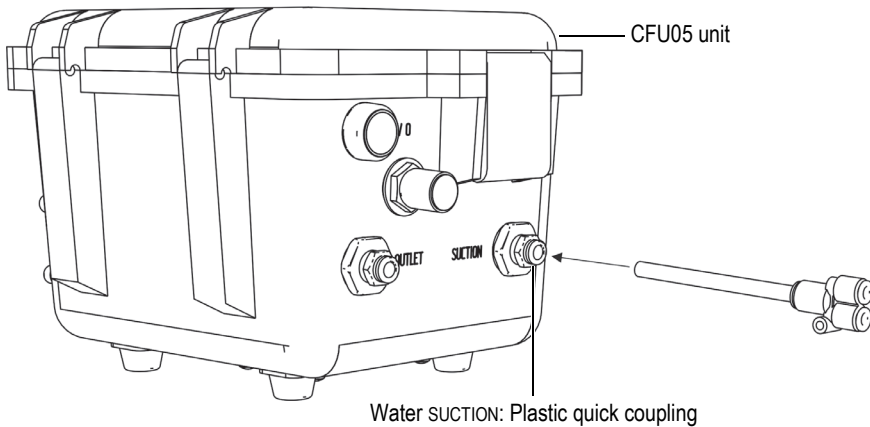

Figure 2-16 CFU05—Water SUCTION connection
1. Insert the water suction tube into the water SUCTION connection (see Figure 2-16 on page 40).